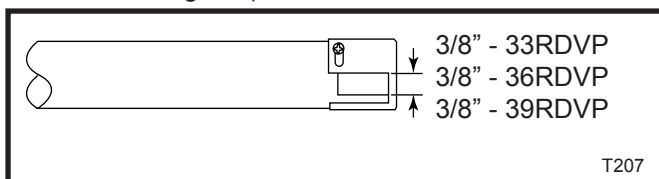

Fig. 52 Air shutter settings for propane/LP gas.
- Set the air shutter opening for propane/LP gas. Tighten air shutter screw. (Refer to Figure 52 and Chart on Page 35)